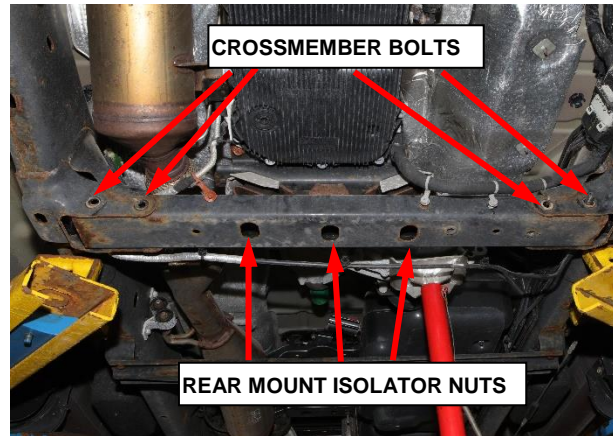

Figure 4 – Transmission Crossmember
104. Install the engine cover (Figure 4).
13. Remove rear mount isolator nuts, the crossmember bolts, and crossmember (Figure 4).